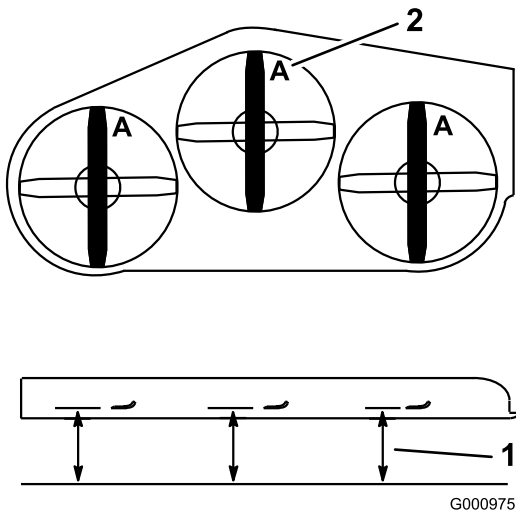

Figure 99
4. Measure from a level surface to the cutting edge, position **A**, of the blades (Figure 99).